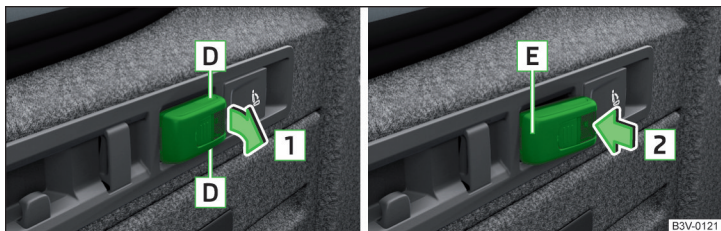

Fig. 156 Removing light/inserting light
- » To **remove**, hold the light in the area **D** and swivel in the direction of arrow **1** » Fig. 156.
- » To **insert**, first of all insert the light with the rear part **E** into the mount » Fig. 156 and then push the light in the direction of arrow **2** until it audibly clicks into place.